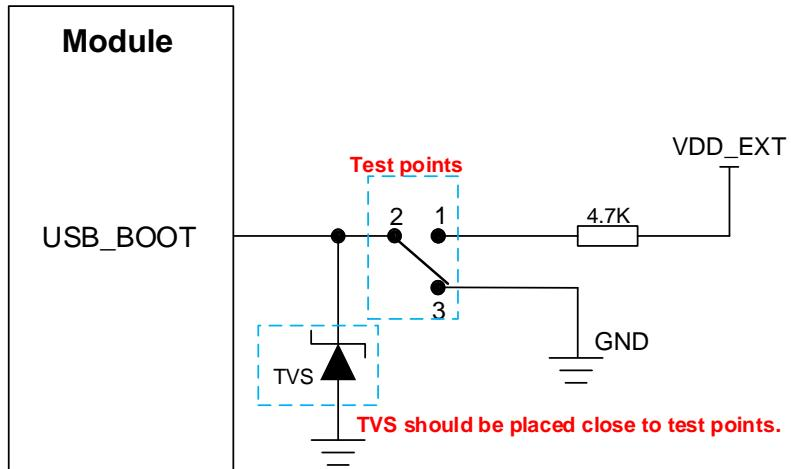

Figure 20: Reference Design of USB\_BOOT
3. If you need to manually force the module to enter download mode, directly connect the test points shown in **Figure 20**.